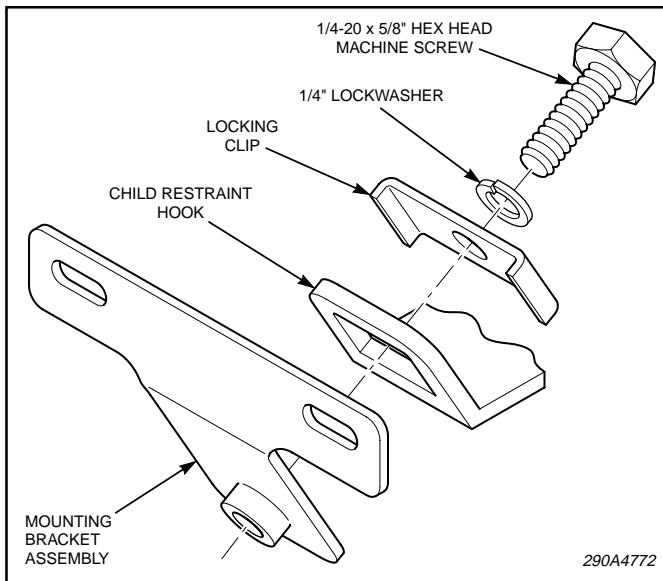

Figure 1.
1. See figure 1. Orient the mounting bracket, locking clip, lockwasher, and hex machine screw as shown with